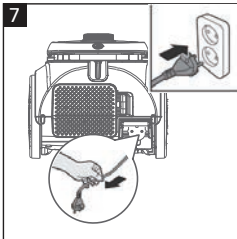

Fig. 7
- Pull the power cord to the desired length (**Fig. 7**). Stop pulling the cord when you see the yellow mark.